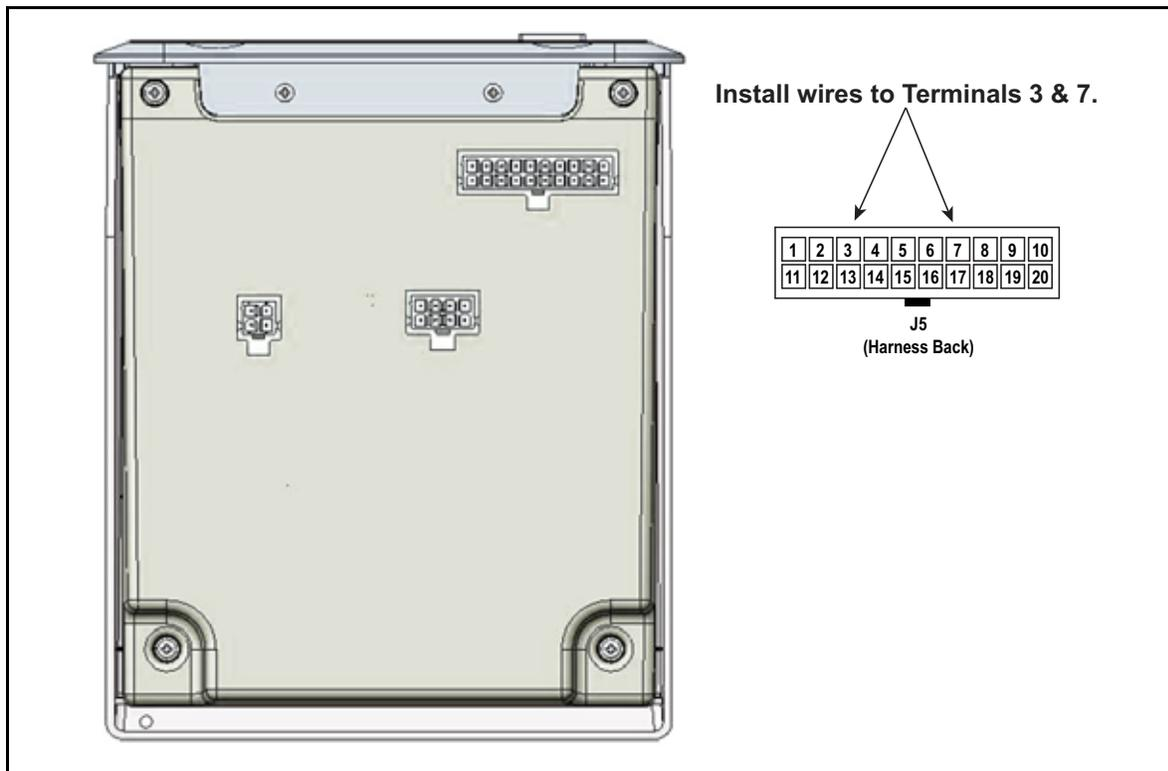

Figure 6. Backside of PowerPact Controller
1. Unplug the 20 pin wire harness connector (J5) from the controller panel by carefully releasing the latch on the side of the connector. See Figure 6.